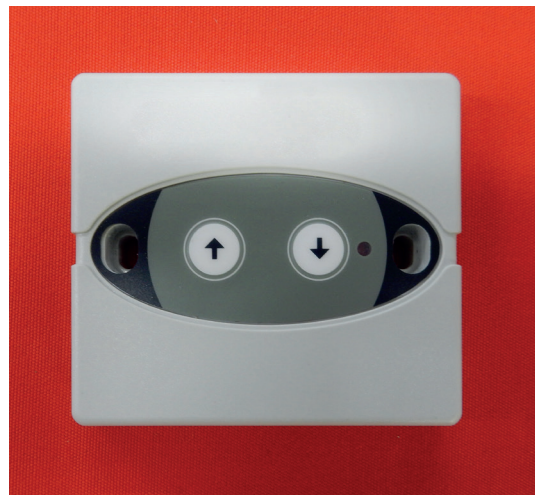

fig.8.1
Push Button (fig.8.1):
- 2 Press up Arrow on push button (fig.8.1). The panel will beep to confirm it has accepted.
- 5 Press Down Arrow on push button (fig.8.1). The panel will beep to confirm it has accepted.